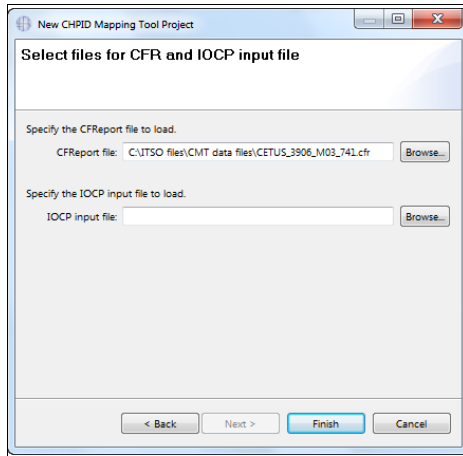

Figure 4-7 Specifying the CFReport file
4. Import the CFReport file into the CHPID Mapping Tool by specifying the name in the CFReport file field. Then, click **Finish** (see Figure 4-7).